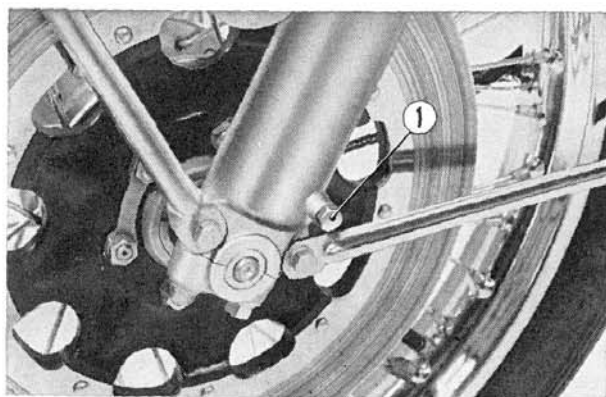

Fig. 19-16 ① Front fork drain plug
(2) Change the oil in the front fork.
a. Unscrew the front fork drain plug at the bottom of the fork cylinder, drain the oil by pumping the forks while plug is out. Replace the plug securely after draining. (Fig. 19-16)